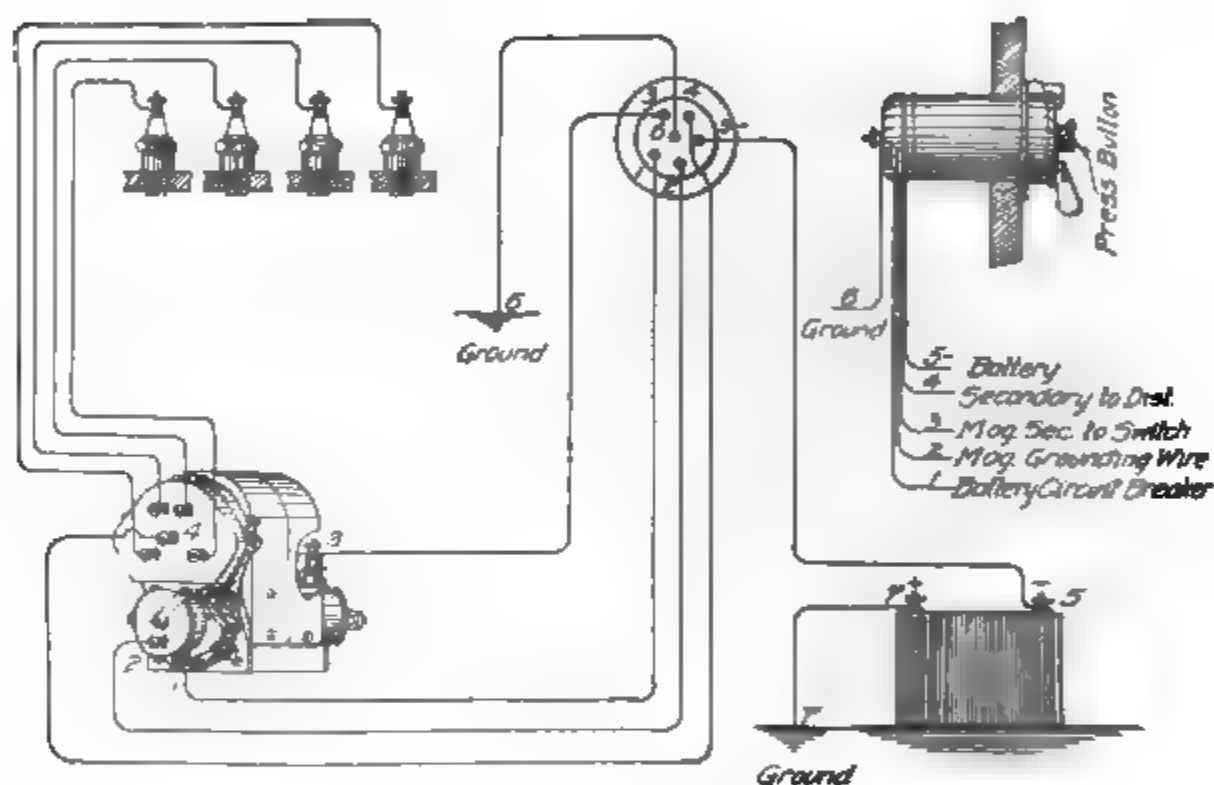

Fig. 81. Wiring Diagram Dual Ignition System
**Dual Ignition System. Bosch Type.** The dual type of ignition system uses one coil and one set of plugs with either the battery or the magneto as the source of current supply, the magneto contact breaker and distributor being common to both. Fig. 81 illustrates the connections of a dual system. Wire Number 1 is in the low-tension circuit and conducts the battery current from the primary winding of the coil to the contact breaker of the magneto. Low-tension wire Number 2 is the grounding wire by which the primary
*Details of Typical Distributor.* Apart from slight variations in detail, the following description of the distributor is typical of all magneto distributors. At its right-hand end, the armature shaft, Fig. 81, carries the steel pinion  $P$ , which meshes with the bronze gear  $Q$  having twice the number of teeth. Rigidly mounted in the bronze distributor gear  $Q$  is a carbon brush  $U$  carried in the holder  $T$ . This brush is pressed by its spring against the inner surface of the insulating cover of the distributor  $W$ , in which are embedded a central contact block  $X$  and four or six (according to the number of cylinders) contact blocks  $YY$ , equally spaced about a circle. At their outer ends these contact blocks carry terminals for the attachment of the high-tension cables. As the distributor revolves it makes contact with the central block  $X$  and all of the blocks  $YY$  in succession.